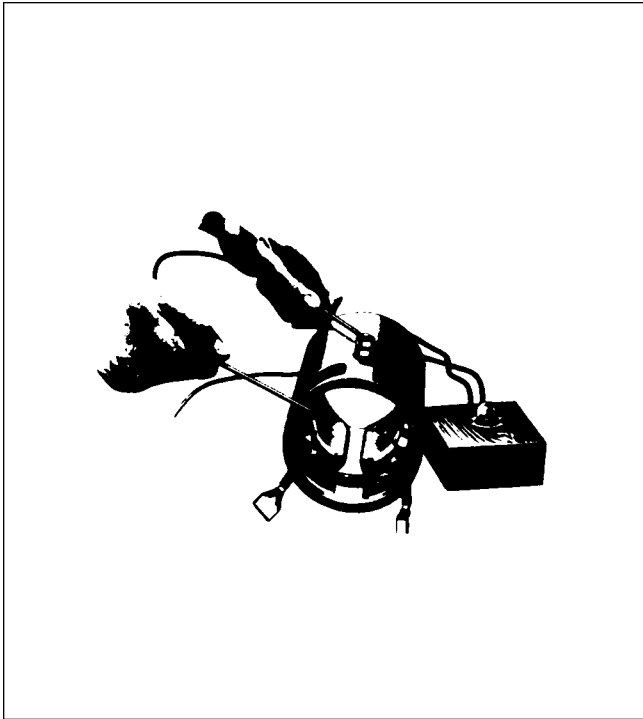

Figure 11-41. Testing Motor Field for Grounds
- Check the field coils for grounds (refer to Figure 11-41) by placing one test probe on the frame and the other on the starter terminal. Be sure the brushes are not accidentally touching the frame. If the lamp lights, the fields are grounded. Repair or replace.